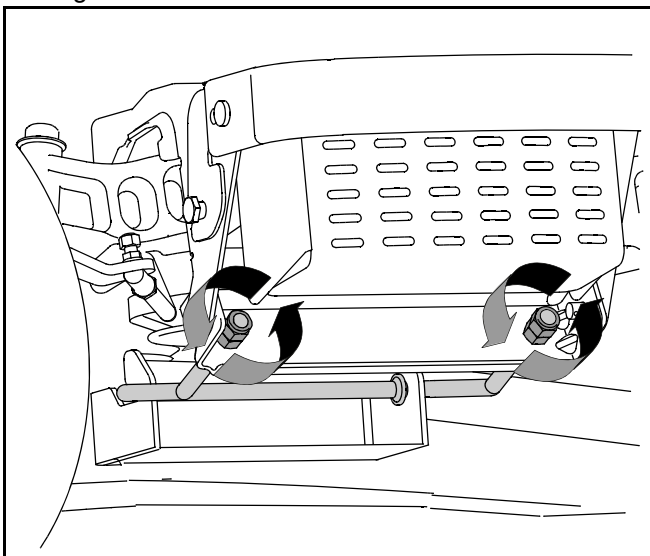

Figure 9
5. From the front of the tractor, loosen the outermost hex lock nut on the end of the deck hanger rod. See Figure 9.
6. Tighten the inner hex nut front against the front hanger bracket to raise the front of the deck; loosen the hex nut to lower the front of the deck. See Figure 9.